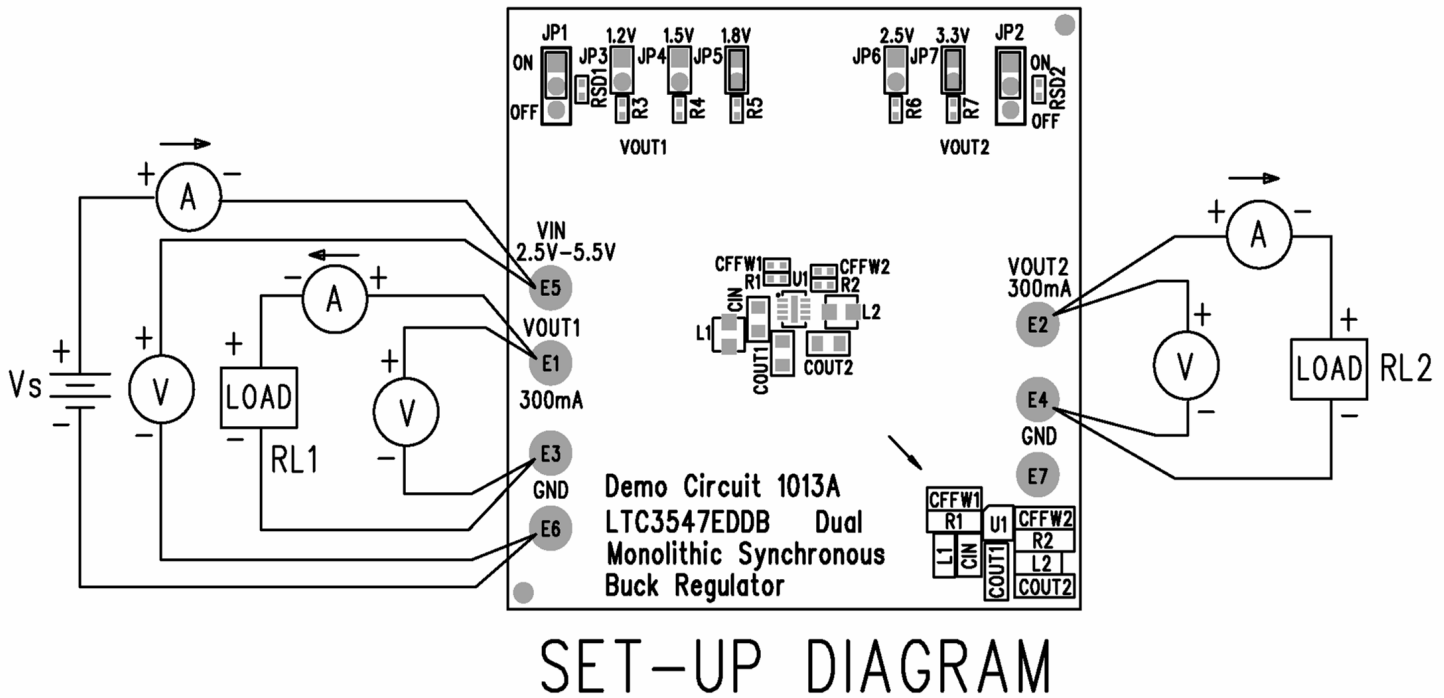

Figure 1. Proper Measurement Equipment Setup
The DC1013 is easy to set up to evaluate the performance of the LTC3547. For a proper measurement equipment configuration, set up the circuit according to the diagram in Figure 1.
1. Connect the input power supply to the Vin and GND terminals. Connect the loads between the Vout and GND terminals. Refer to Figure 1 for the proper measurement equipment setup.